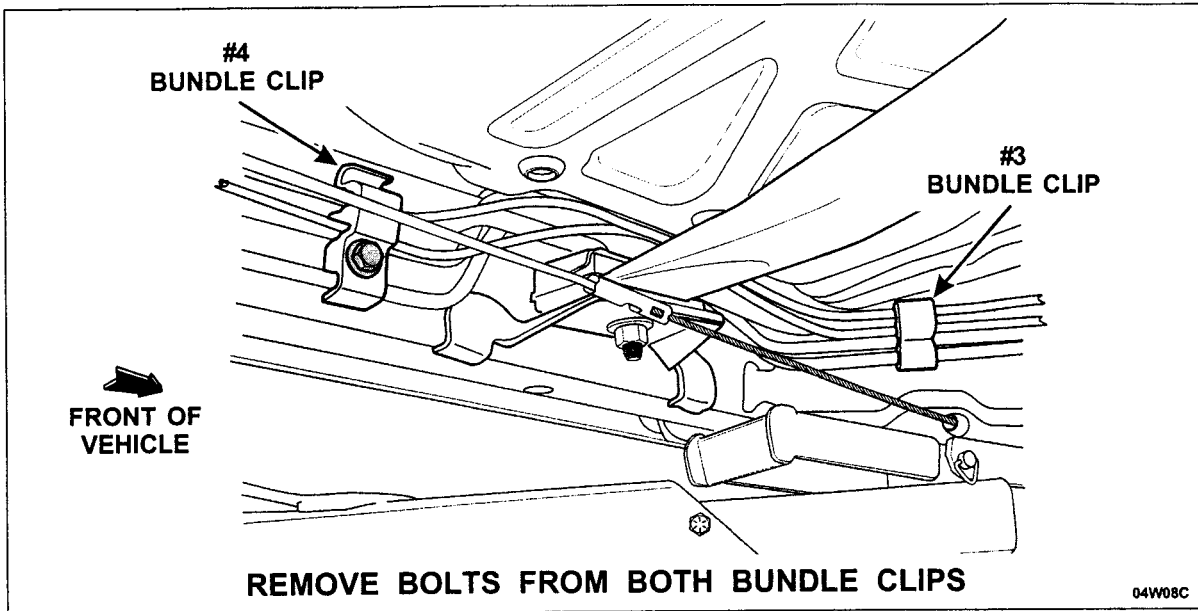

FIGURE 3
2. Remove the bolts for the #3 and #4 bundle clips. See Figure 3.